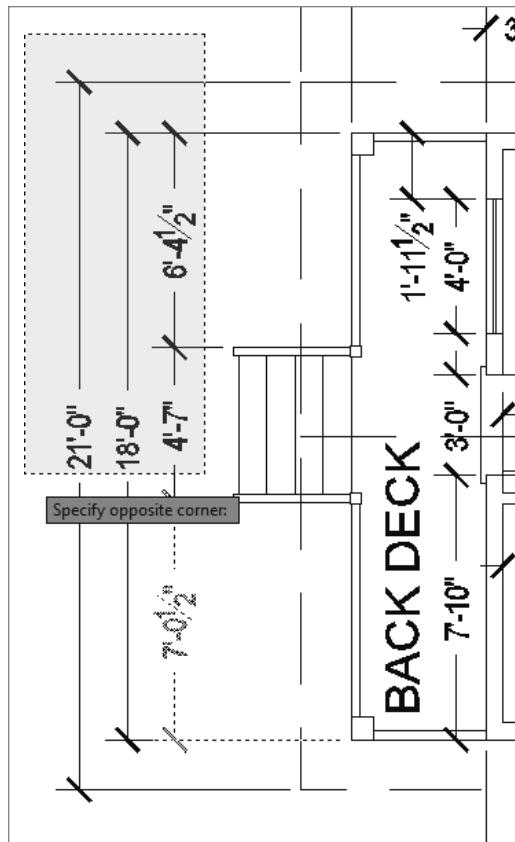

FIGURE 12.59 Selecting the remaining deck dimensions to adjust the spacing
4. Select the remaining dimensions for the back deck, as shown in Figure 12.59, and press ↲.